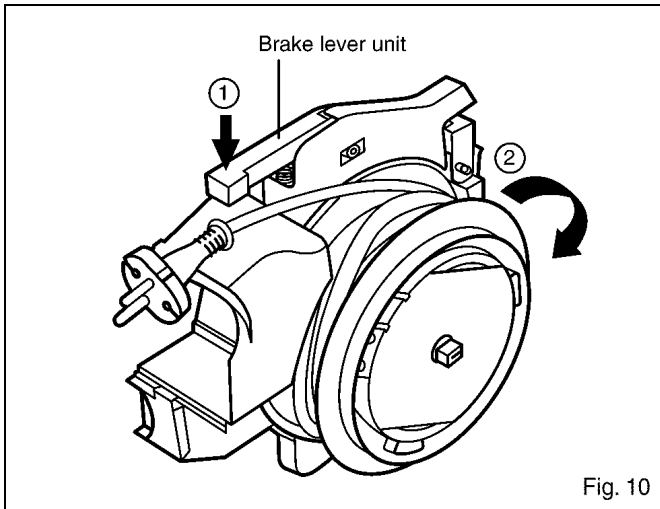

Fig. 10
2. Press the brake lever and unwind the power supply cord three times to release the cord reel spring efficiency. (Fig.10)